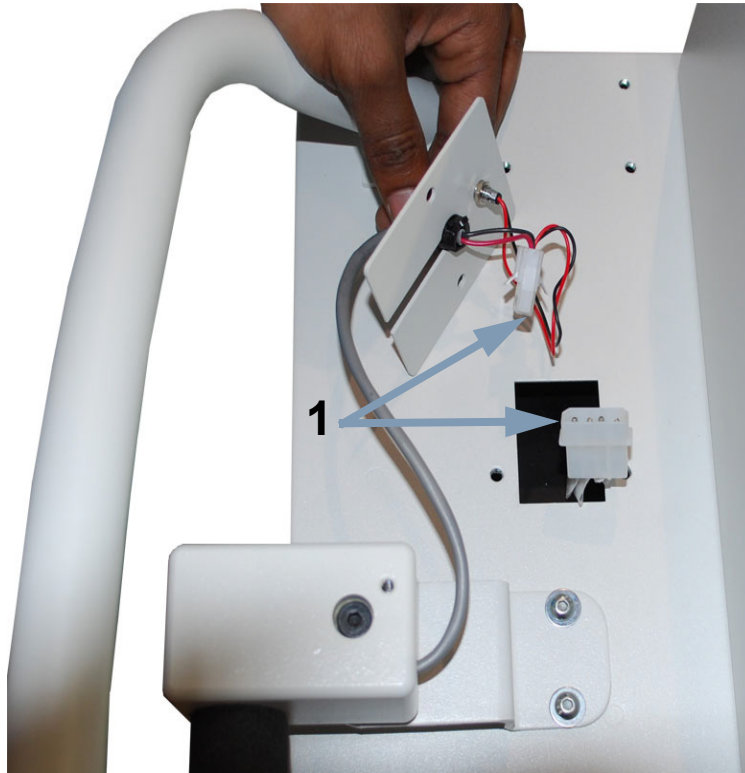

Figure 5-19. Brake Handle Connections
- 23** Disconnect the cable harness (1 in Figure 5-19) and remove the brake handle.